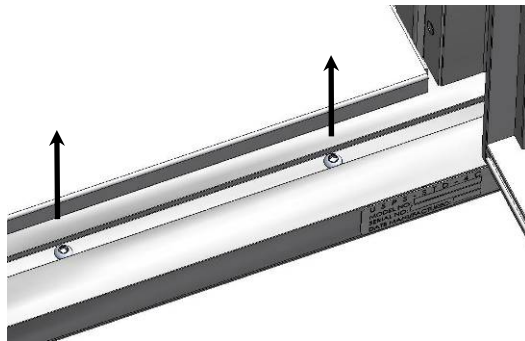

Figure 6 – Remove Bottom then Top Mounting Screws
Step 3 - Remove mounting screws along the bottom of the versatile™ unit and then along the top. (See Figure 6)